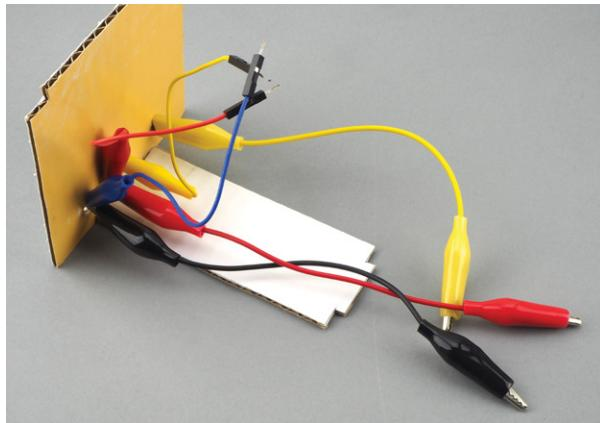

Figure 6-14: Attaching the bottom card to the front card
- Now slot the bottom piece of cardboard into the front piece and fix it in place using adhesive tape (Figure 6-14).